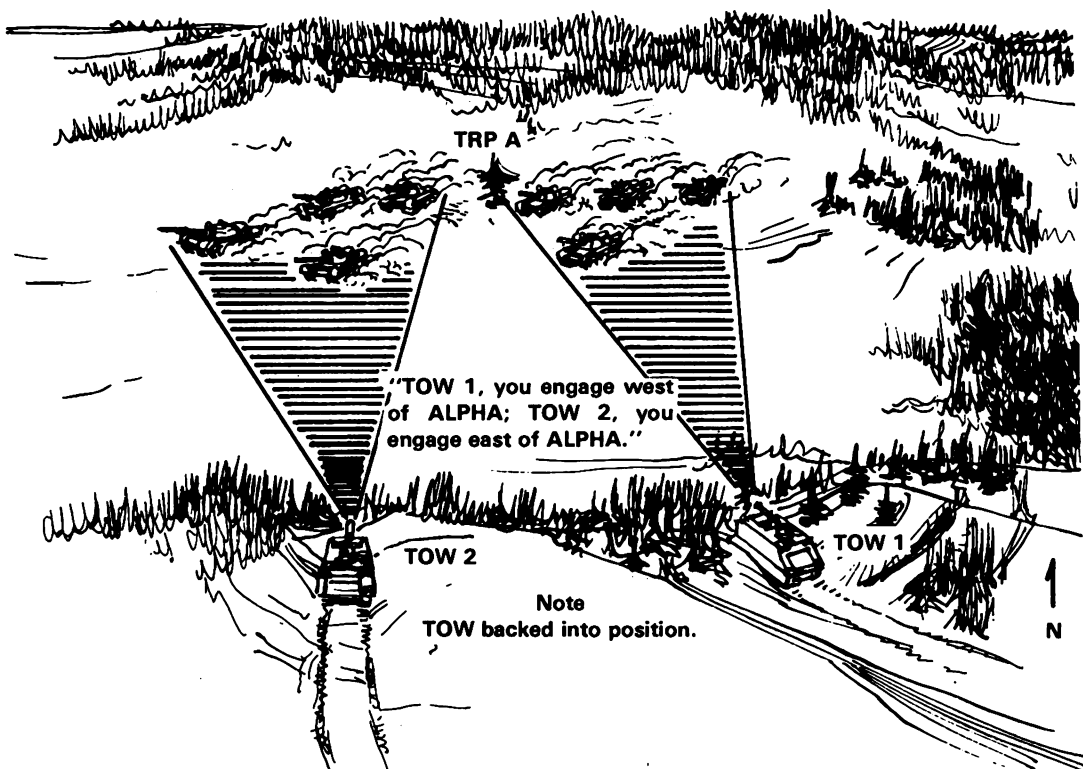

Figure 4.
(3) Target reference points. A TRP is a prominent natural or manmade feature such as a road intersection, hill, or bridge designated by the commander to rapidly designate targets and shift direct fires. TRPs are normally designated by a letter or number (or a combination) and are recorded on range cards for easy reference (figure 4).